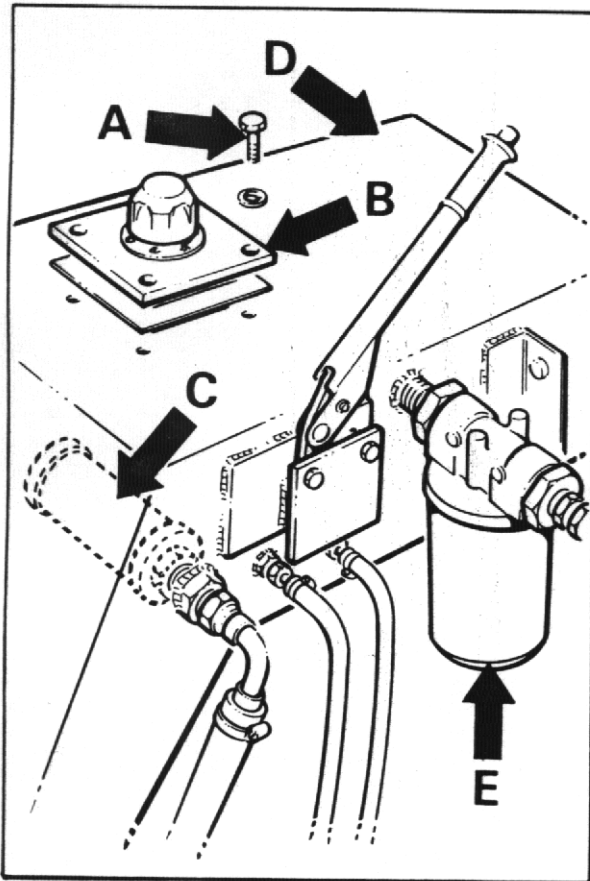

FIG. 9
2. Check that hydraulic suction filter is not blocked. (See fig.9).
- a) Remove the four setscrews (A) that secure the filler cap assembly (B) and remove assembly.
- b) Unscrew suction filter (C) from inside tank (D) and wash in white spirit. Dry with moisture-free compressed air.